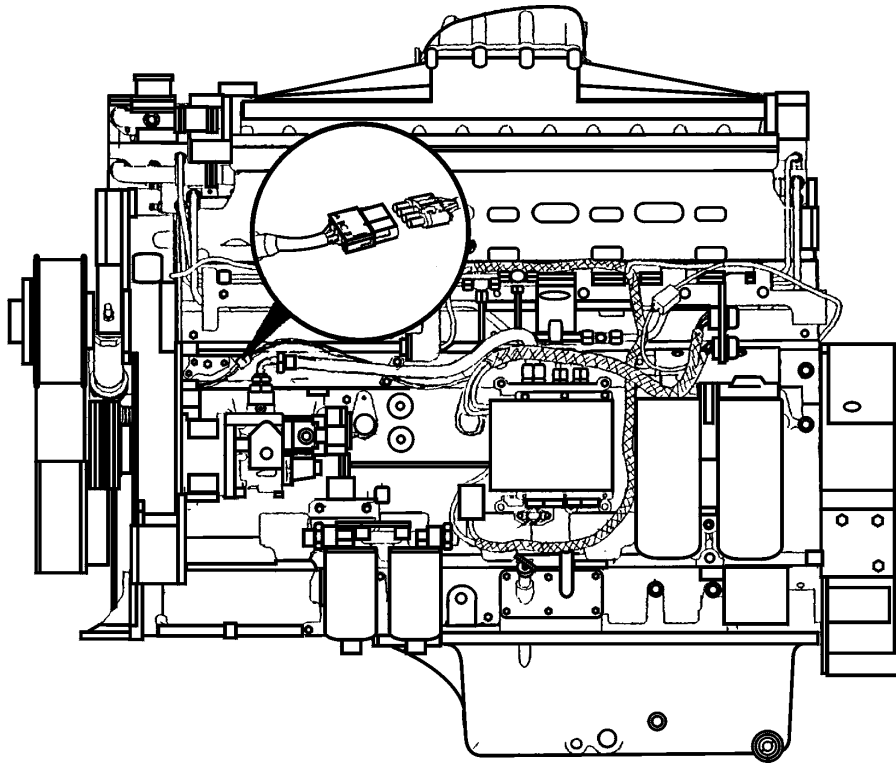

Fig. 16A. ESP engine RPM sensor connector.
3. QSK-19 engine. Unplug the male part of the ESP engine RPM sensor connector. Refer to Fig. 16A.